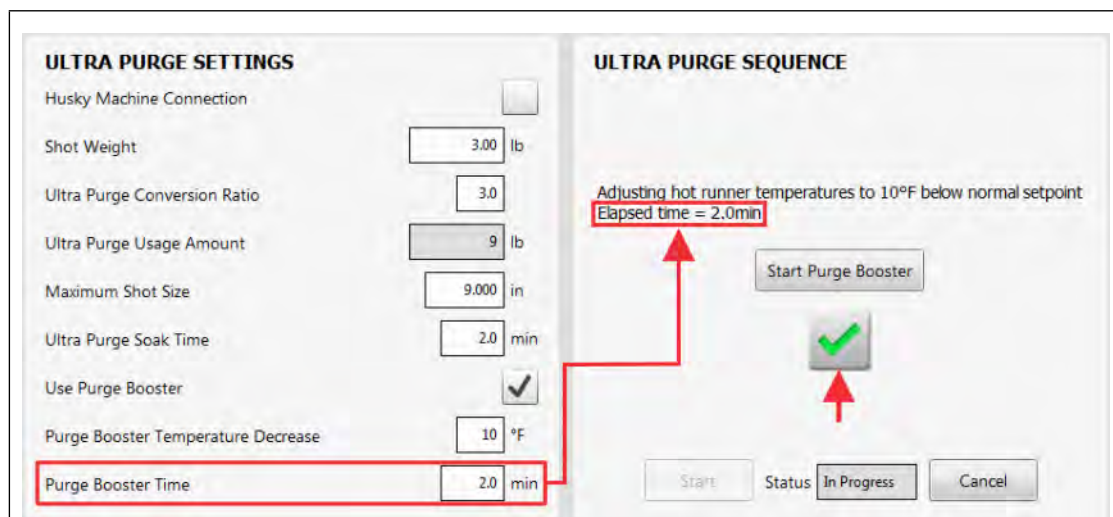

Figure 13-35 Purge Booster Time Completes
23. When the Purge Booster Time completes, touch the green check mark button to continue (refer to Figure 13-35.)